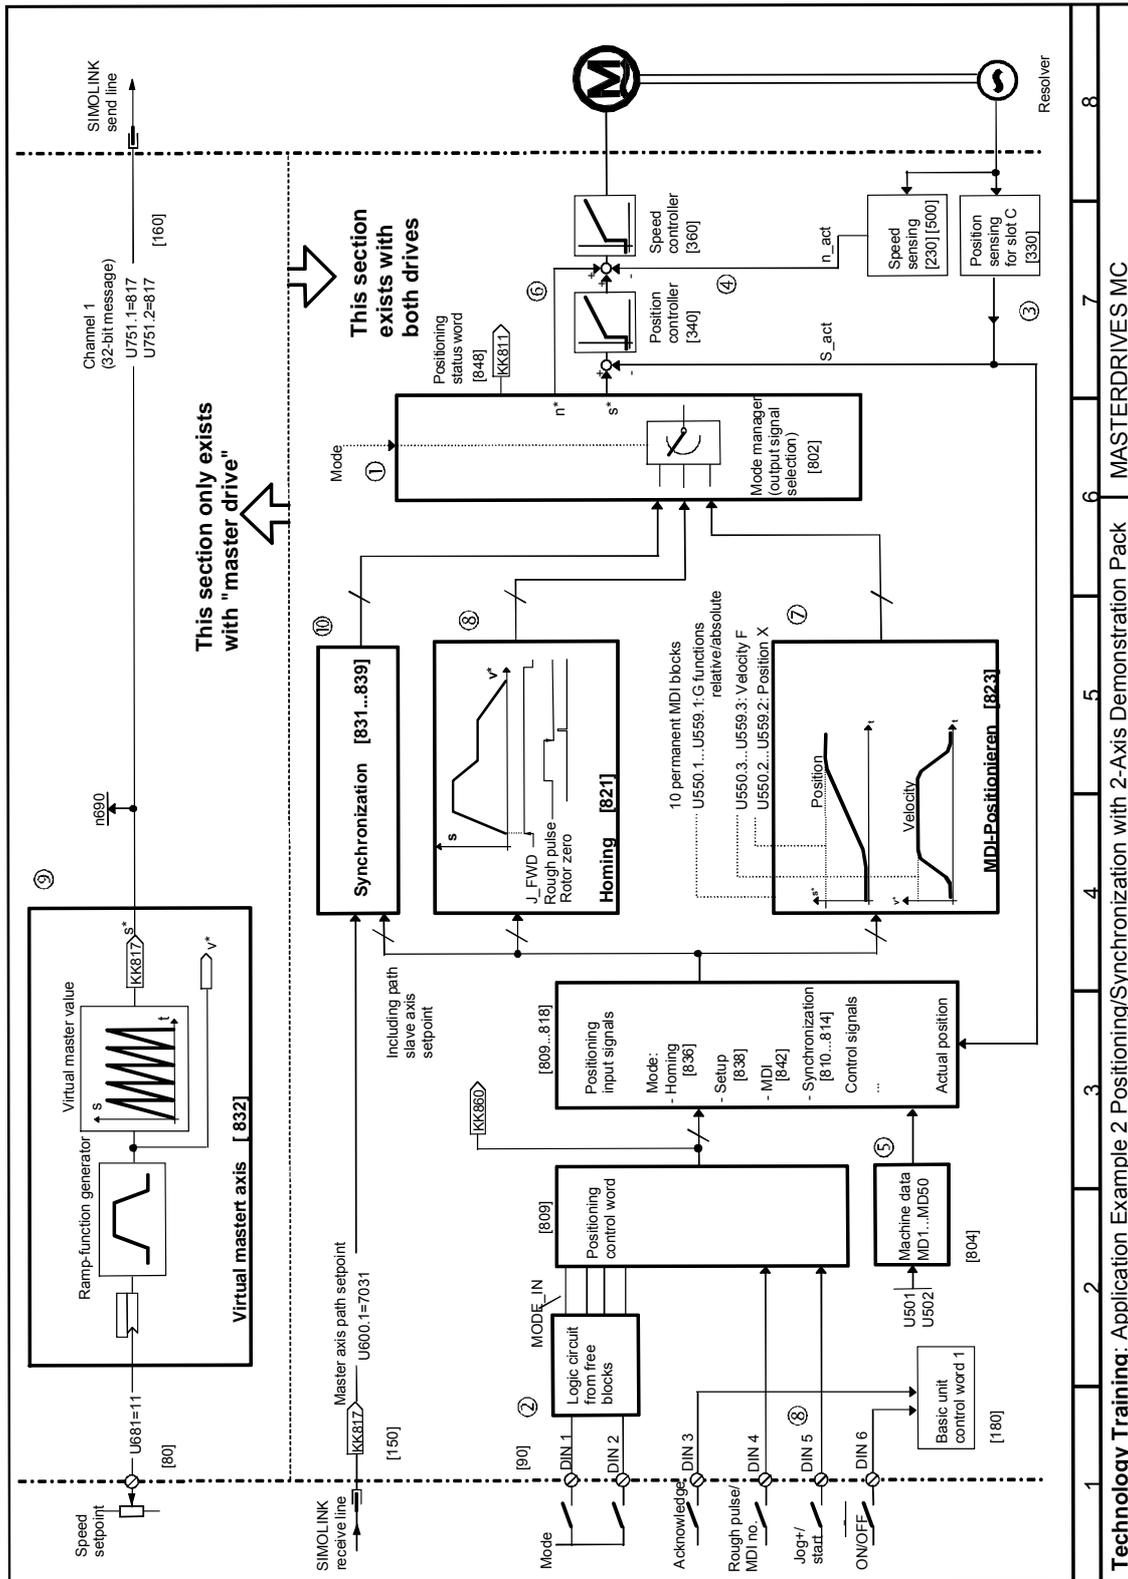

Fig. 9-47 Application example 2: positioning/synchronization with 2-axis demonstration pack
The overview diagram in Fig. 9-47 shows how the technology functions are interconnected.
Fig. 9-47 shows the digital input assignments used in this example ②. The assignment of functions to individual terminals used here is arbitrary. The BICO technology (connector/binector technology) allows virtually any terminal wiring to be implemented.